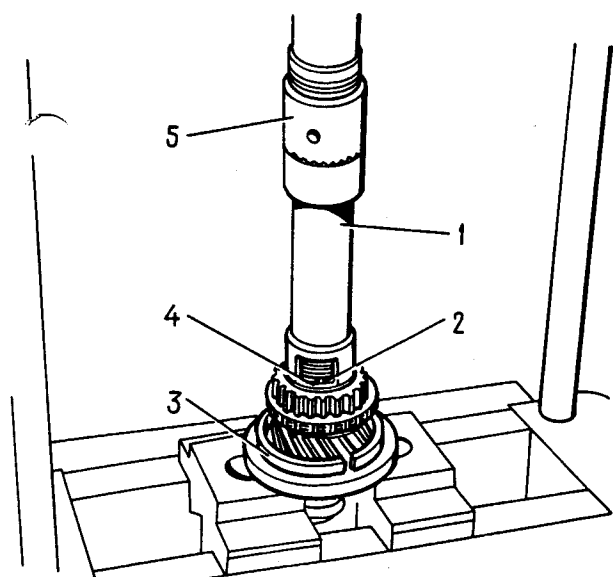

Fig. 3-28. Installing Main Shaft Lockring:
- remove 1st speed gear 12 with bushing 13 from the rear end of the shaft, remove hub 3 with 1st and 2nd speed sliding shift sleeve, 2nd speed gear 11 complete with synchronizer baulk ring 5; - install the main shaft with tool 41.7816.4069 on a press (Fig. 3-28), put supporting half-rings 3 under the 3rd speed gear and, pressing on the spring washer with the tool, remove lockring 2; then remove spring washer 4, the hub of the 3rd and 4th speed sliding shift sleeve and the 3rd speed gear.